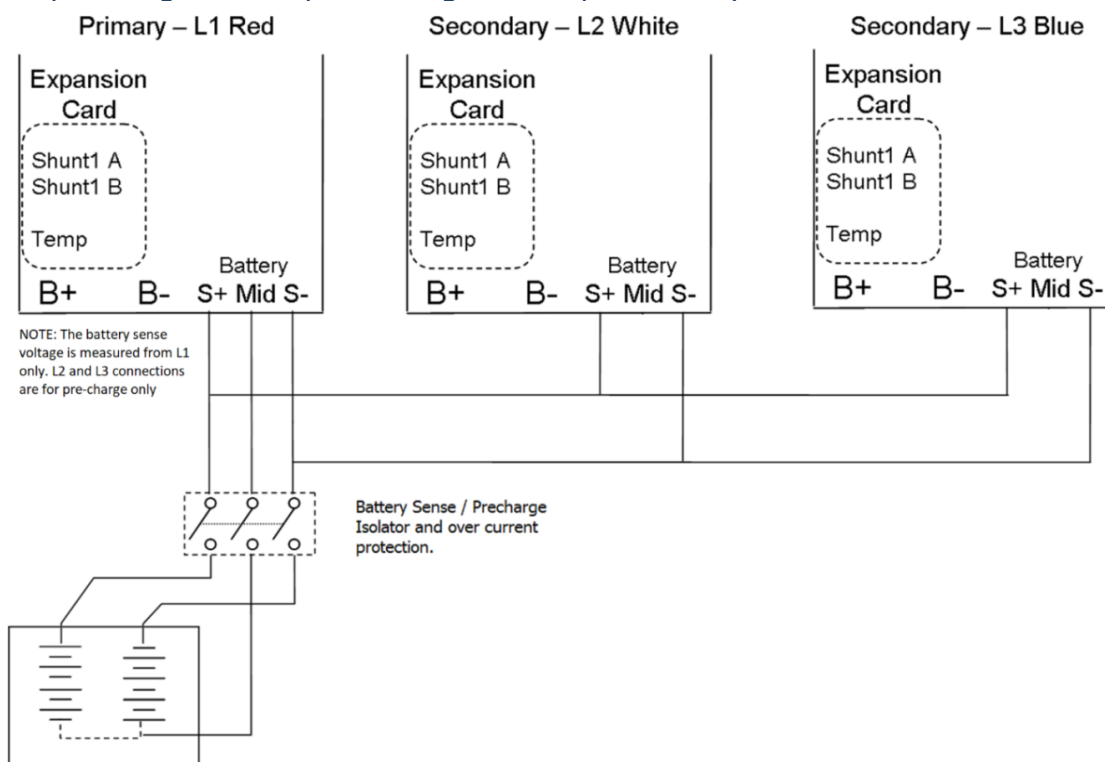

Figure 3: SP PRO Three Phase DC pre-charge and midpoint wiring layout
The PRO Three Phase DC pre-charge and midpoint wiring layout is shown in Figure 3.
- Turn on the Battery Sense / Pre-charge isolator (See Fig 3). Wait until the SP PRO comes on.